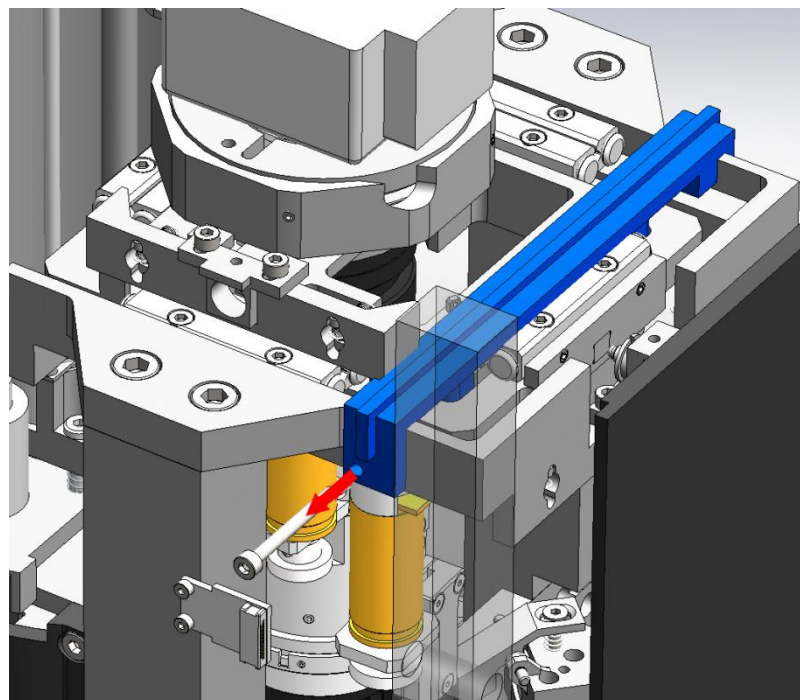

Fig. 3-5
1. Remove the fastening screw M3 of the bracket (Fig. 3-5).